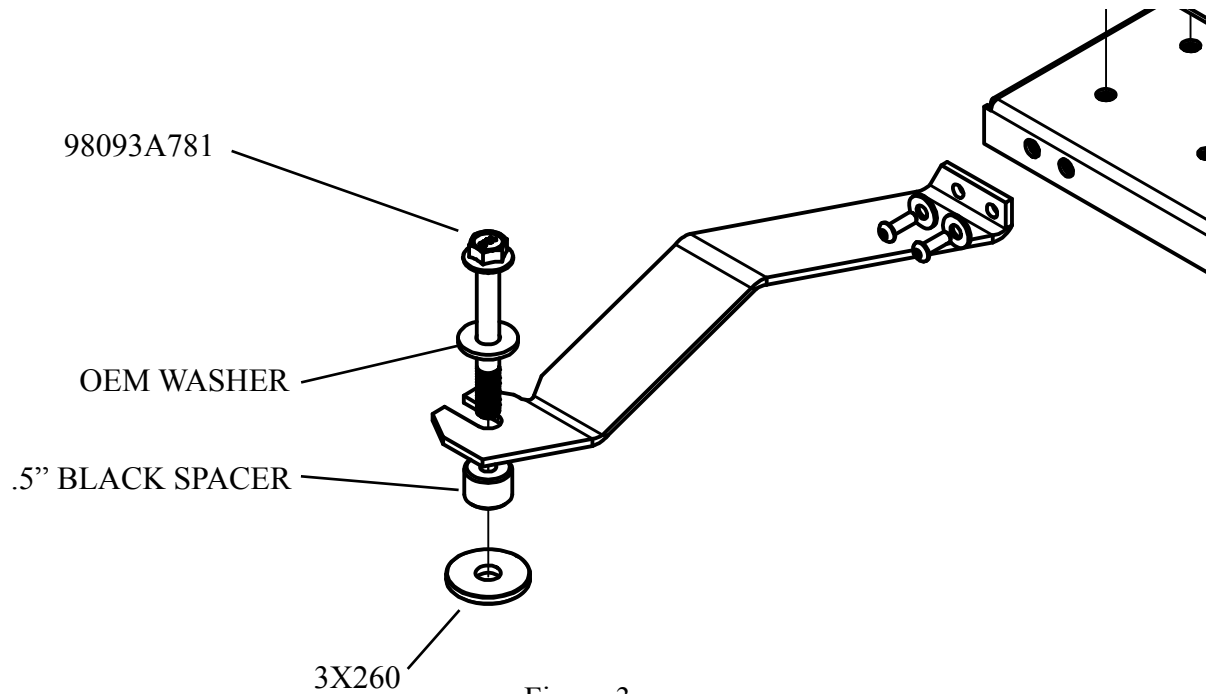

Figure 3.
G. Install the bolt (98093A781) from the top as shown in Figure 3, and then the OEM washer, .5" black plastic spacer from the bottom, and the flat washer (3x260). A second installer may be needed to hold the bolt inside the vehicle, while the other installer tightens the nut from below the vehicle. Make sure all other bolts are tightened.
- B. The brackets mounting the gun lock are designed to be loosened and adjusted in many directions to accommodate most guns. Fit each gun by loosening the bolts on the gun lock bracketry so the mounting bracket moves freely. Place your gun into the lock and in the desired position. Take a allen wrench to tighten locks in place. (See Fig. 3)